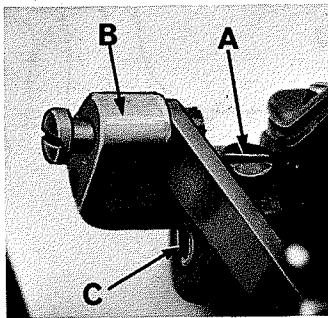

Fig. 12
The thread tension release is set correctly when it begins to function at the point when the upper feed roller begins to raise. When adjustment is necessary, loosen screw (A, Fig. 12) in lifter lever (B). Facing the tension release shaft (C) from the RIGHT end of the machine, insert screwdriver in slot in shaft and rotate counterclockwise to retard, or clockwise to advance the release